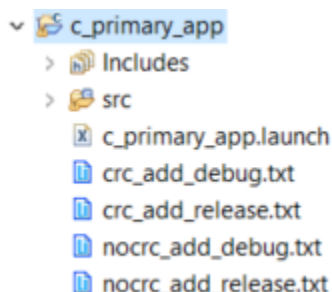

Figure 8.20. Copied Text Files
21. It now adds the txt files under the FreeRTOS App C project as shown in Figure 8.20.